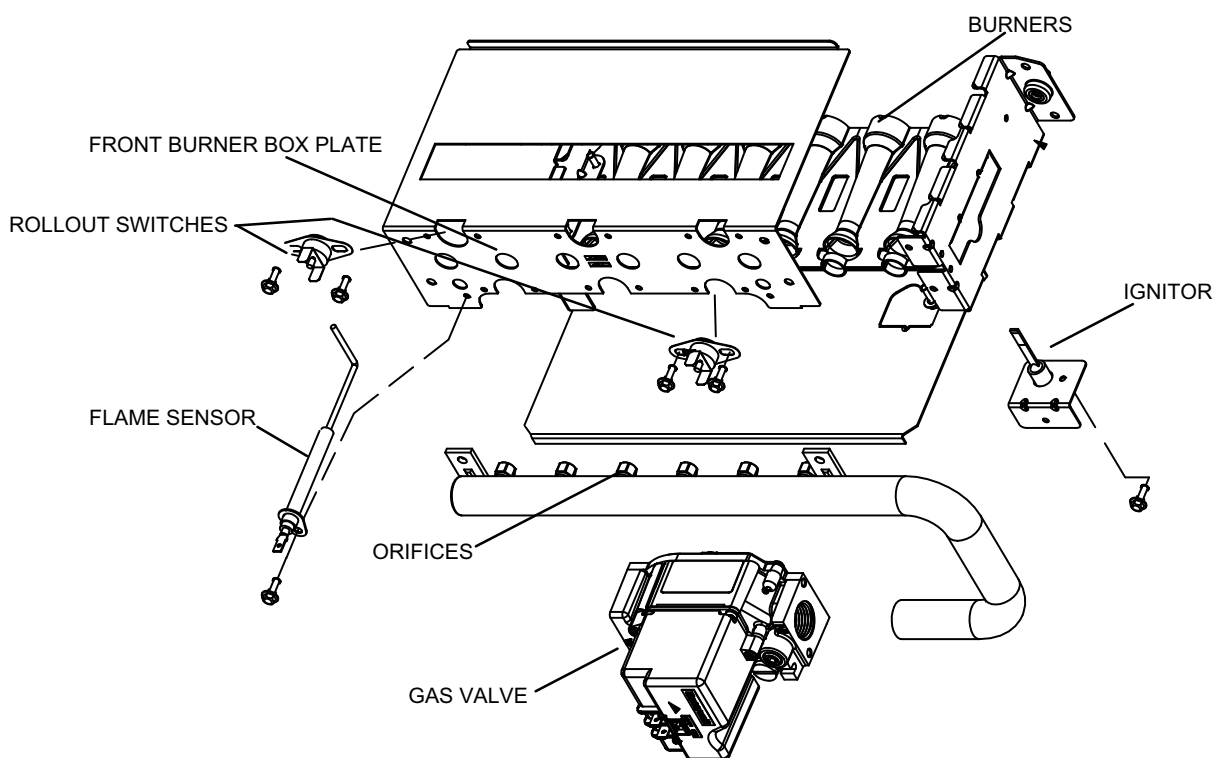

FIGURE 10
The hot surface ignition control system consisting of an integrated control (figure 6 with control terminal designations in tables 4 and 5), flame sensor and ignitor (figure 10). The integrated control and ignitor work in combination to ensure furnace ignition and ignitor durability. The integrated control, controls all major furnace operations. The integrated control also features a RED LED for troubleshooting and two accessory terminals rated at (1) one amp. See table 6 for troubleshooting diagnostic codes. The 120V ignitor is made from a high strength, silicon nitride material that provides long life and trouble free maintenance.
1. Flame Rollout Switches (Figure 10)
6. Flame Sensor (Figure 10)
7. Ignitor (Figure 10)